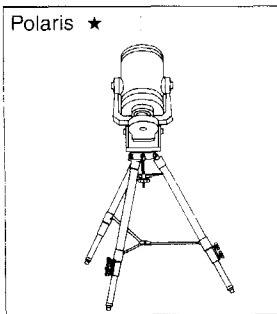

Fig. 18: Mount too far East.
- a. If the star drifts South (or down), the telescope's polar axis is pointing too far East (Fig. 18).